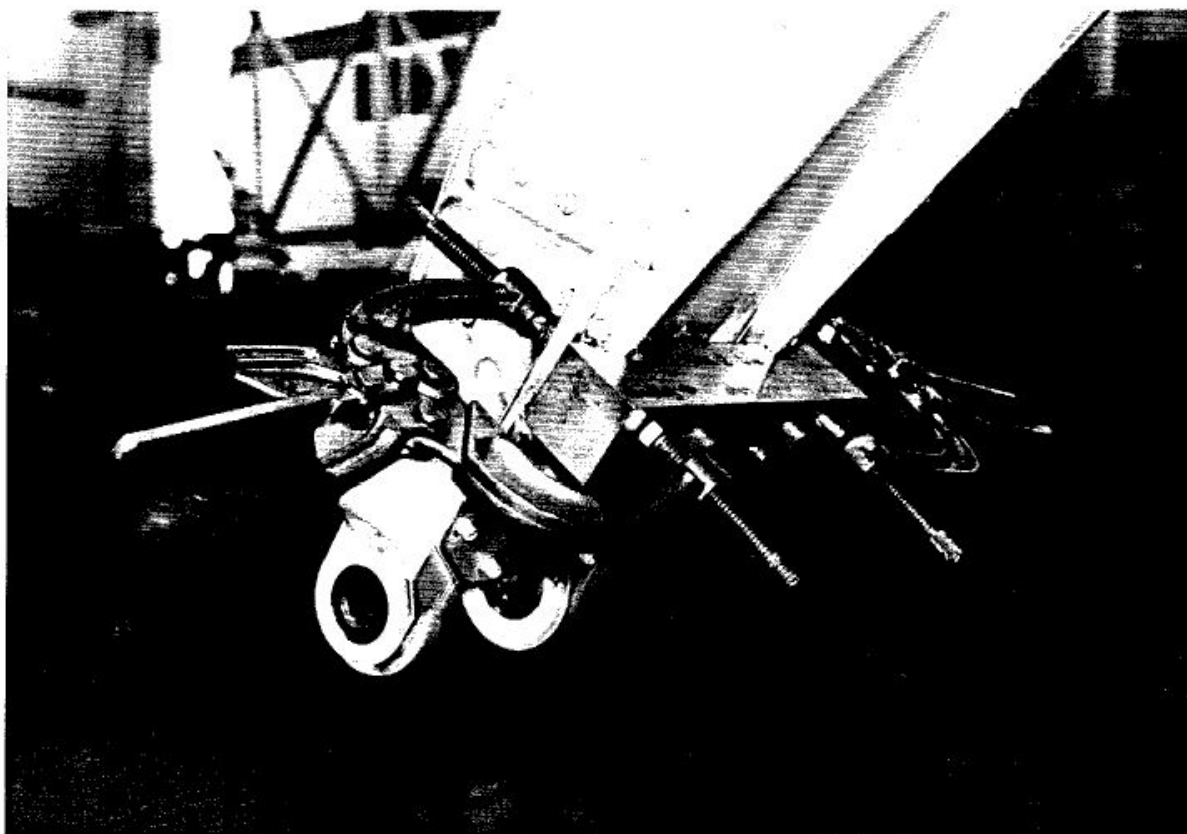

Fig. 2
- 1) Position drilling jig P/N 001U575A0600 on bottom side of flap arm 2, refer to fig.1 and fig. 2.